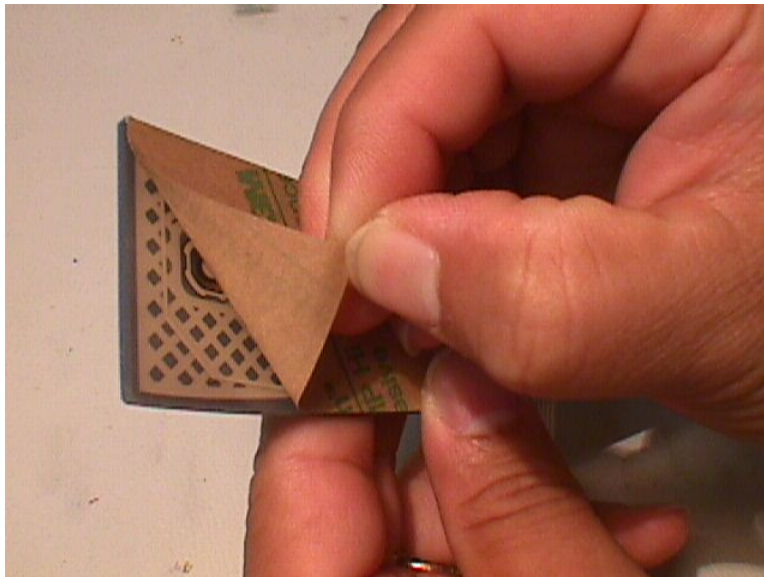

Figure 7-6 Remove the covering on the back of the new switch set
1. Remove the covering on the back of the new switch set, exposing the adhesive. (See Figure 7-6).